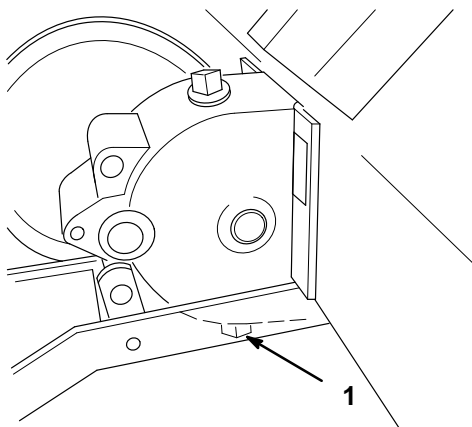

Figure 27
2. Clean the area around the lower pipe plug (Fig. 27).